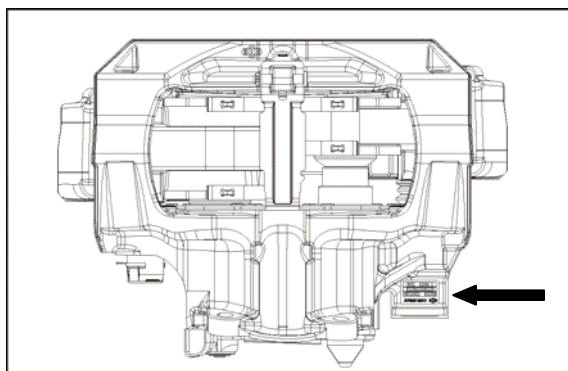

Figure 1
4.1 Separation of brake from steering knuckle (Fig. 1 to 3):
Figure 1 shows the position of the identification plate (arrow) using the KNORR brake as an example!